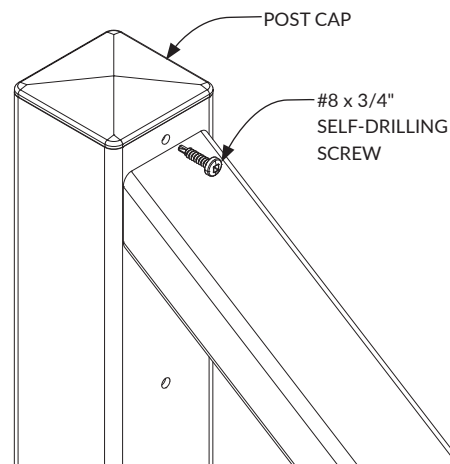

Figure 5.17
**At the Upper Newel Posts Only** - Install the Post Caps with (2x) #8 x 3/4" Self-Drilling Screws. (See Figure 5.17)